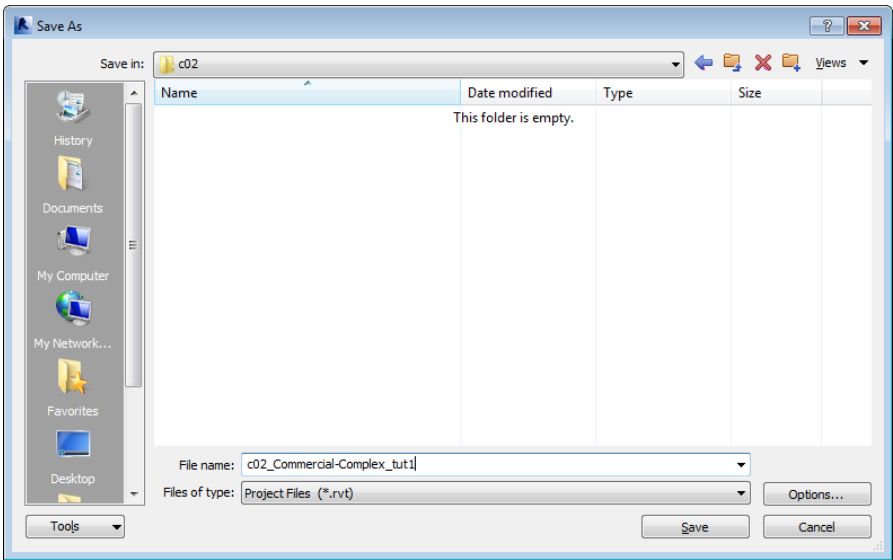

Figure 2-30 The Save As dialog box
3. Open the *rst_2016* folder and then create a sub-folder with the name *c02_rst_2016_tut*. Next, open the created folder and save the file with the name *c02_Commercial-Complex_tut1.rvt* (For Imperial), refer to Figure 2-30. For Metric, save the file with the name *M_c02_Commercial-Complex_tut1.rvt*